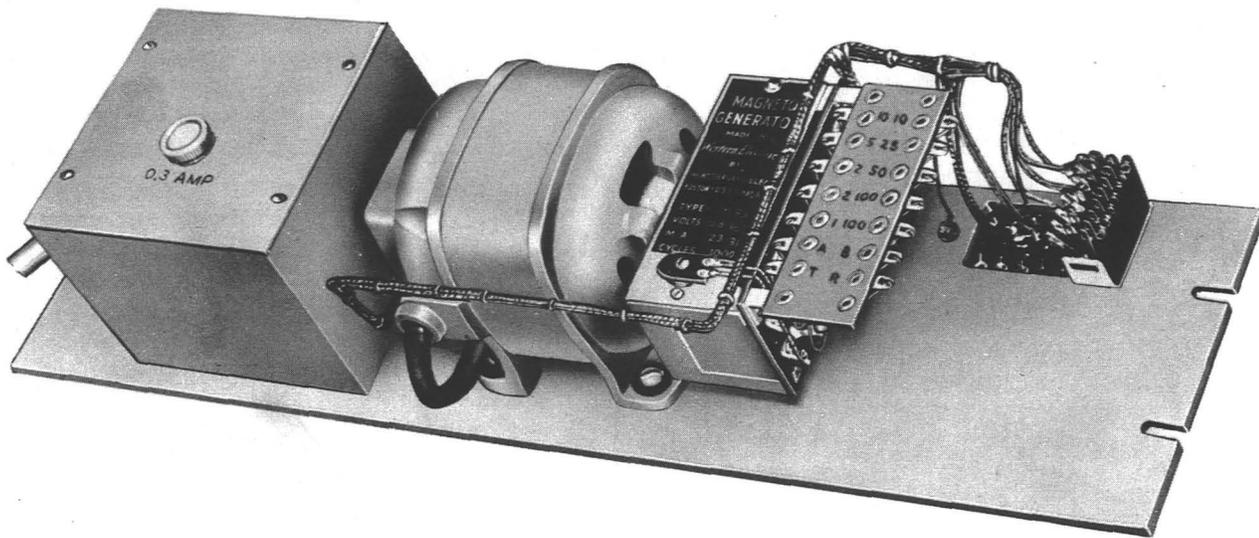

Fig. 4 — Typical 2A Sending Panel (Rear View Shown)
(3) To add end play washers to a machine mounted on a panel, such as the 2A sending panel (see Fig. 4), the panel will have to be removed from the bay to facilitate handling of the machine. Any leads that are disconnected should be tagged for reconnection. On a suitable work table place a wooden block beneath the panel so that the panel lays flat, motor upwards. With the offset screwdriver, remove the four mounting screws holding the machine to the panel. In shifting the machine to gain access to parts, care should be exercised so that excessive strain is not placed on connected leads. Continue the procedure as covered in (2) beginning with "Take off nameplate — etc."